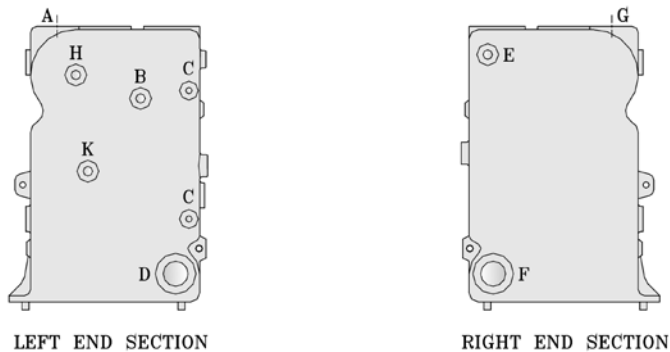

Figure 4: Purpose of Tappings
- D. Install Safety Valve** in Tapping 'E'. See Figure 4. Use $\frac{3}{4}$ NPT x 3" nipple and $\frac{3}{4}$ elbow provided. **Safety Valve must be installed with spindle in vertical position.**
E. Install Drain Valve in Tapping 'F'. See Figure 4.